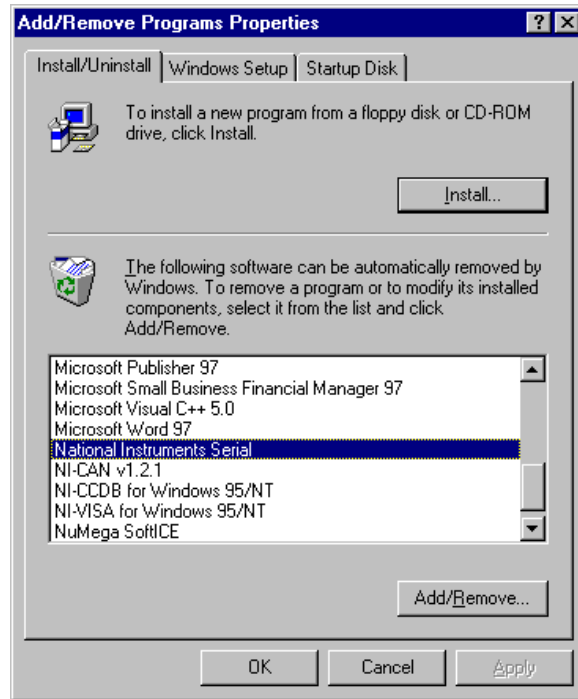

Figure B-2. Add/Remove Programs Properties Dialog Box
2. Double-click on the **Add/Remove Programs** icon. A dialog box similar to the one shown in Figure B-2 appears. This dialog box lists the software that you can uninstall.